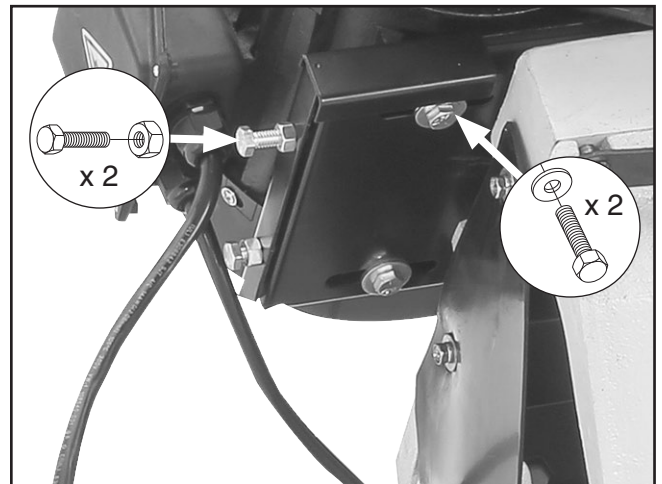
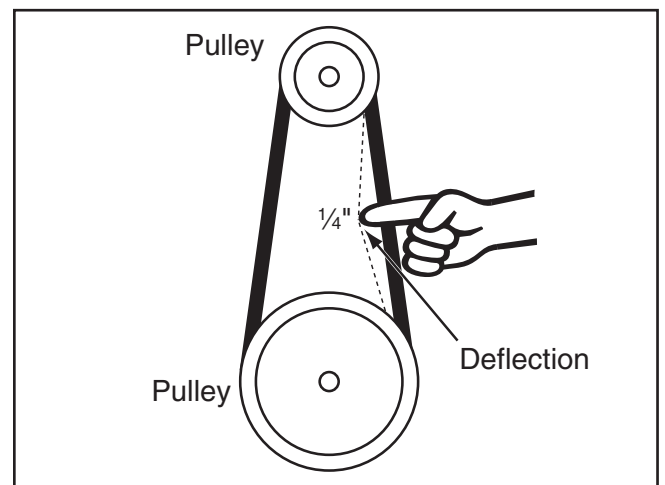

Figure 16. Motor mounting fasteners installed.
Figure 17. Checking belt deflection.
5. Loosely thread (2) $\frac{5}{16}$ "-18 x 1" hex bolts with $\frac{5}{16}$ " flat washers into motor mount bracket (see **Figure 16**).
6. Thread (2) $\frac{5}{16}$ "-18 x 1" hex bolts with $\frac{5}{16}$ " hex nuts into side of motor mount plate (see **Figure 16**). Adjust hex bolts and motor until there is about $\frac{1}{4}$ " of belt deflection when belt is pressed with moderate pressure between center of pulleys (see **Figure 17**).